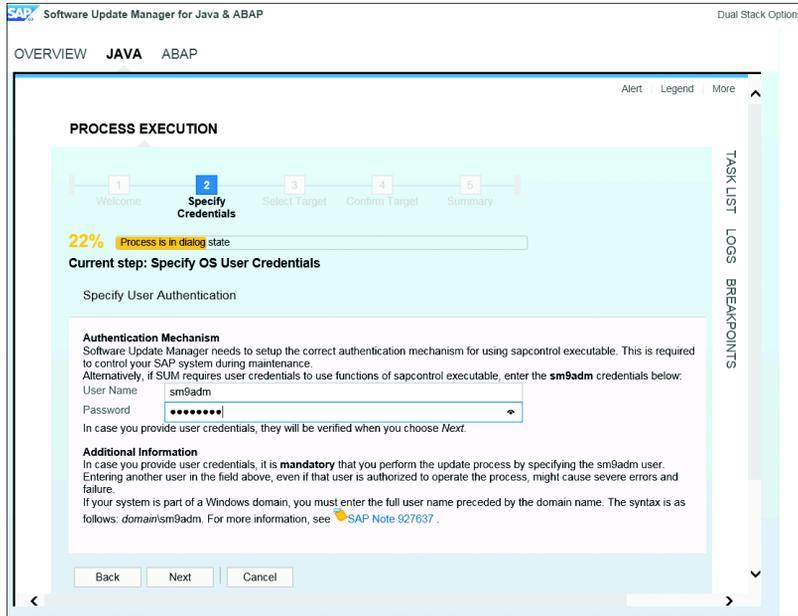

Figure 39 Enter Credentials for SIDADM
2. Enter the password for user SIDADM and click NEXT (see Figure 39).